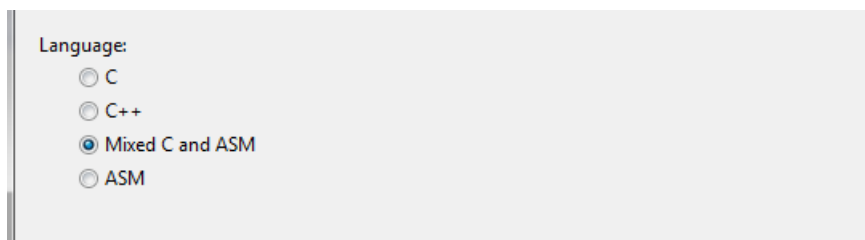

Figure 1-4. Language choice
- From the options given, select the Simple Mixed Assembly and C language, and click Finish. See Figure 1-4.